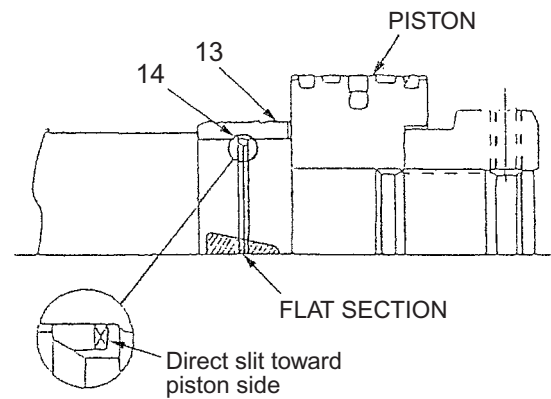

Fig. 32-52 Cushion mechanism on extension side
- 1) Install cushion seal (14) with the slit machined side toward the piston side.
- 2) Install the cushion bearing (13) with the flattened side as shown in Fig. 32-52.